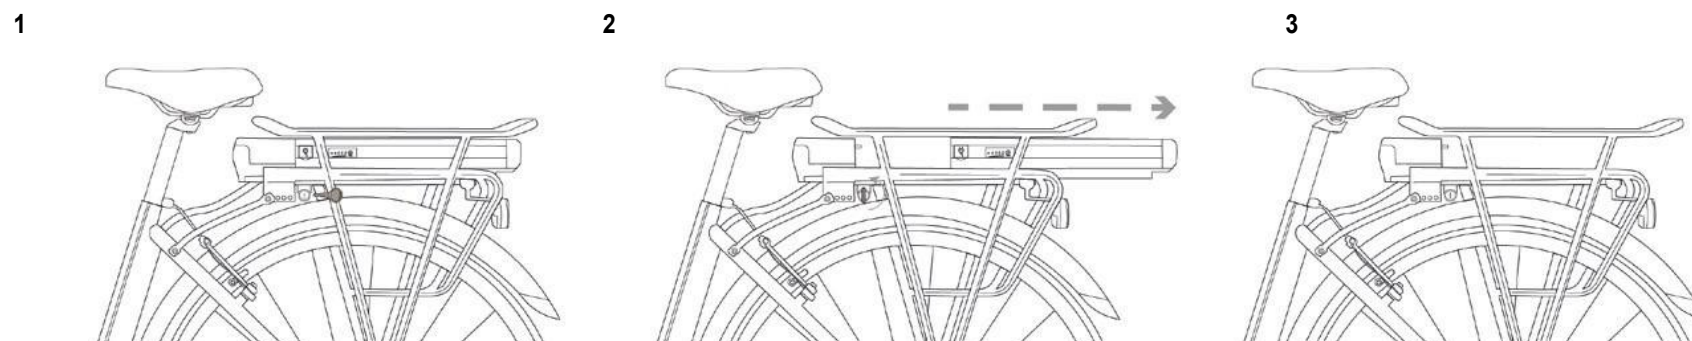

FIG. 8
1. Insert the battery release key into the slot on the front left side of the luggage rack (Ref. 1 in Figure 8) and turn it counterclockwise until you hear the release click;
2. Extract the battery by using the handle on the rear of the battery, taking care not to use excessive force (Ref. 2 in Figure 8);
3. Remove the key (Ref. 3 in Figure 8).